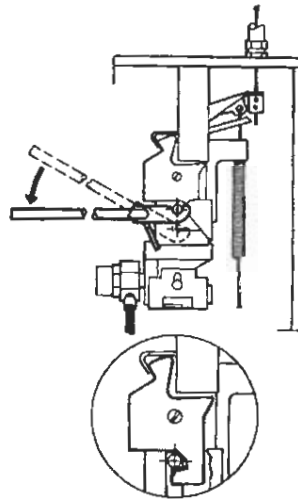

FIGURE 32
- ▶ 11. Using long handle cocking lever, Part No. 14995, or wrench on short handle cocking lever nut, Part No. 435603, pull down to raise cocking pin until the trip lever indented surface moves underneath the pin and locks the pin in the up position. See Figure 32.